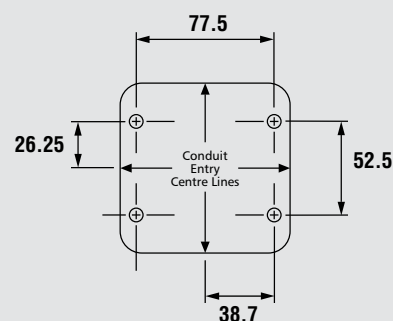

Figure 1
4. Two bezel mouldings are supplied. Select the appropriate bezel depending on whether one or two modules are fitted, locate in position and secure with the two screws provided as shown in Figure 1.